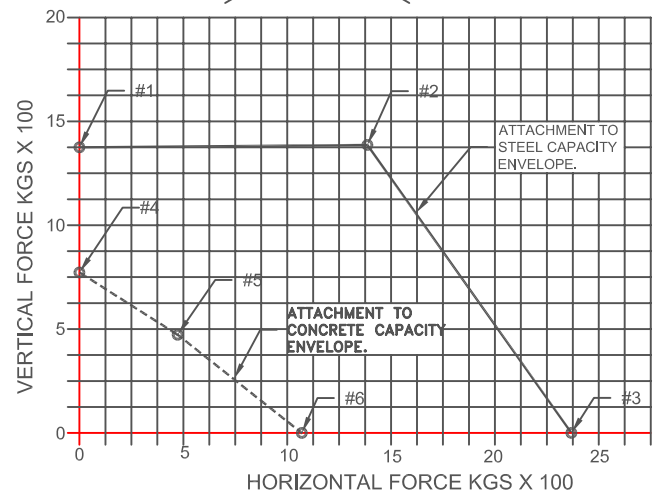

FIGURE 1 RESTRAINT CAPACITY ENVELOPE
- 1) READ THE ANCHORED (CONCRETE) OR BOLTED (STEEL) ENVELOPES DIRECTLY FROM FIGURE 1 AT RIGHT
- 3) PLOT THE VERTICAL RESTRAINT CAPACITY FROM CURVE #1 (FIGURE 2) OR #4 (FIGURE 3) ON THE VERTICAL AXIS OF FIGURE 1.
- 4) PLOT THE HORIZONTAL RESTRAINT CAPACITY FROM CURVE #3 (FIGURE 2) OR #6 (FIGURE 3) ON THE HORIZONTAL AXIS OF FIGURE 1.
- 5) PLOT THE COMBINED RESTRAINT CAPACITY FROM CURVE #2 (FIGURE 2) OR #5 (FIGURE 3) AT THE POINT ON FIGURE 1 WHERE THE VERTICAL AND HORIZONTAL FORCES BOTH MATCH THIS VALUE.